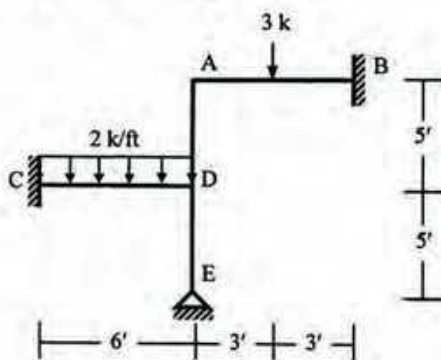

Fig. 3
3. For the frame shown below in *Fig. 3*, assemble the global stiffness matrix considering boundary conditions and neglecting axial deformation. Also write down the global load vector [Given: $EI = 40 \times 10^3 \text{ ksf}$, $A = 1 \text{ ft}^2$].
3. For the frame shown below in *Fig. 3*, assemble the global stiffness matrix considering boundary conditions and neglecting axial deformation. Also write down the global load vector [Given: $EI = 40 \times 10^3$ ksf, $A = 1$ ft²].